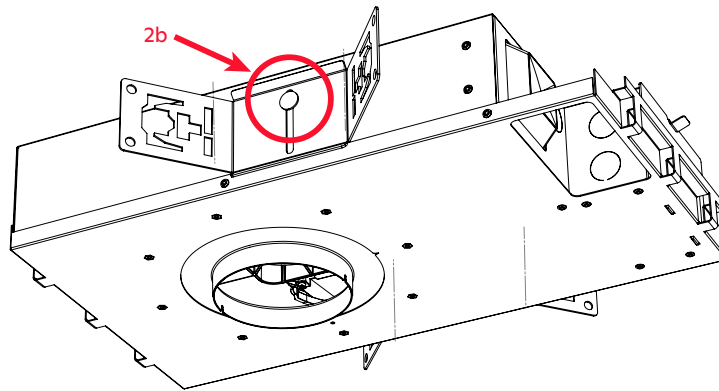

fig. 7
- b. Run the bracket's bolt through the hole in the side of the housing (see fig. 7).